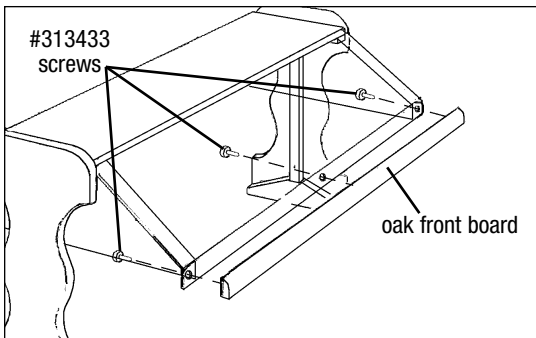

Figure 6
- On each end of table, align holes of Lexan® close-off and canopy. Secure both Lexan® pieces to oak front board, using #313433 screws through both Lexan® pieces and into oak front board – see *Figure 6*.
- In center of table, secure Lexan® canopy to oak front board, using #313433 screw through Lexan® canopy and into oak front board – see *Figure 6*.